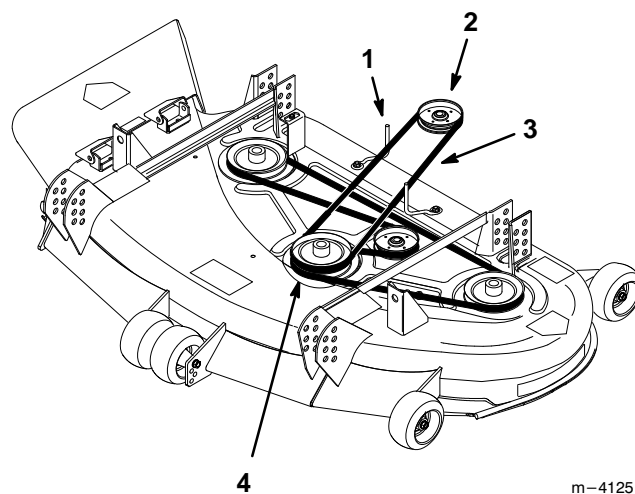

Figure 26
4. Remove the worn drive belt (Fig. 26).
5. Install the new drive belt onto the traction unit drive pulley and the top groove of the center spindle pulley (Fig. 26).